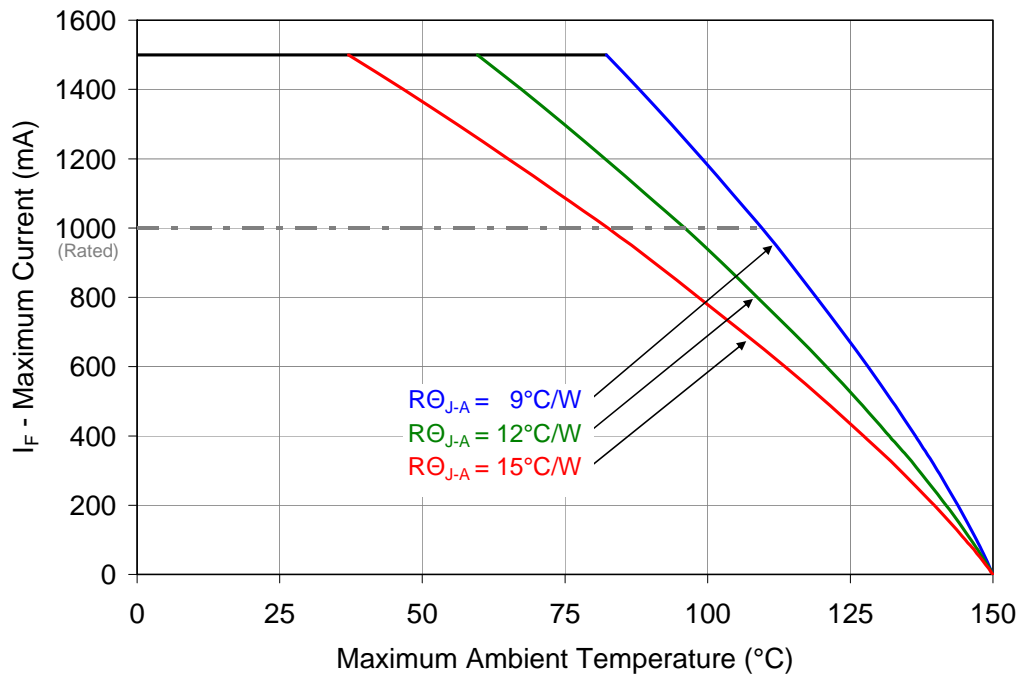

Figure 11: Maximum forward current vs. ambient temperature based on  $T_{J(\text{MAX})} = 150^\circ\text{C}$ .
- Maximum DC forward current is determined by the overall thermal resistance and ambient temperature. Follow the curves in Figure 11 for current derating.
Notes for Figure 11: